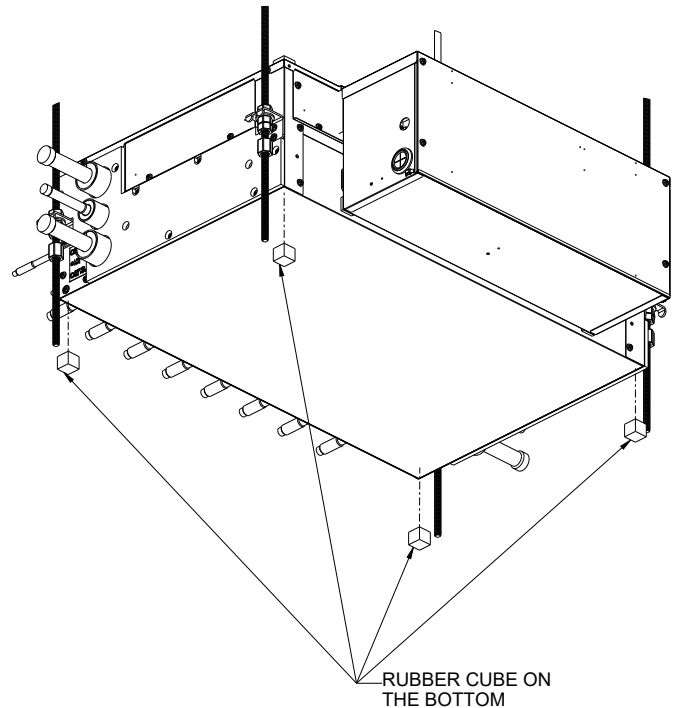

FIGURE E.2
- 1.2 Remove the adhesive liner and attach the 1-inch rubber pads (item 11) to the bottom of the branch selector unit. (As indicated in Figure E.2)